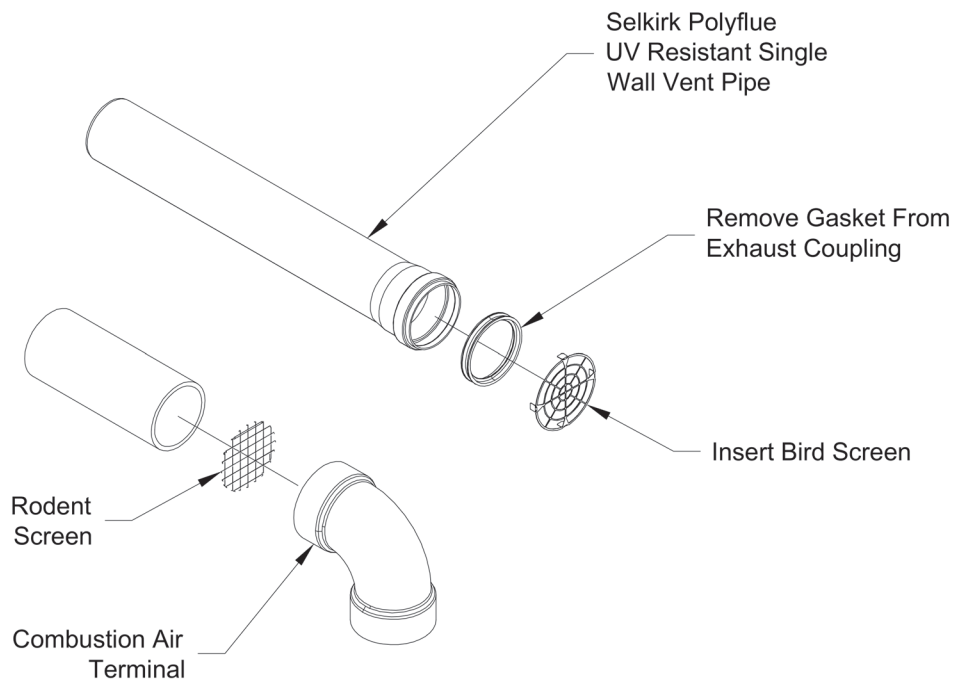

Figure 7.41: Installation of Selkirk Polyflue UV Resistant Single Wall Horizontal Terminal
- See Figure 7.41 for proper orientation of twin pipe horizontal terminals. Outer edge of exhaust coupling must be 10" or less from the wall surface. (Figure 7.9)